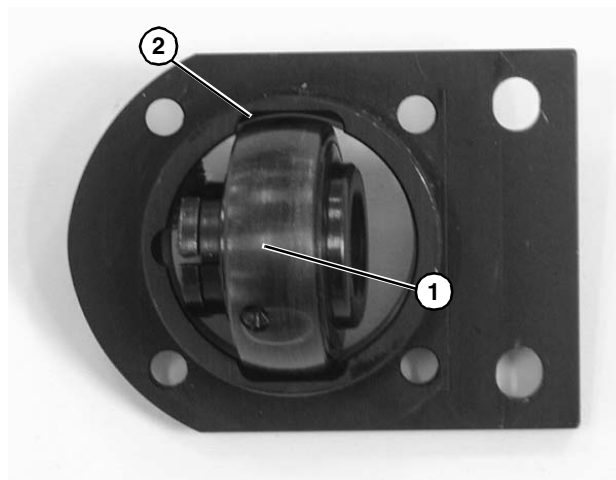

Figure 87
1. Turn bearing (**Figure 87, item 1**) to align with slots (**Figure 87, item 2**) in bearing housing. Then remove bearing.